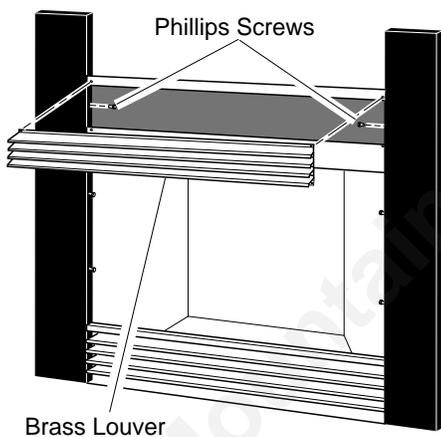

Figure 7 - Remove Brass Louver
4. Using Phillips screwdriver, remove four screws attaching brass louver. Install one Phillips head screw (included with kit) in each side (see Figure 7).